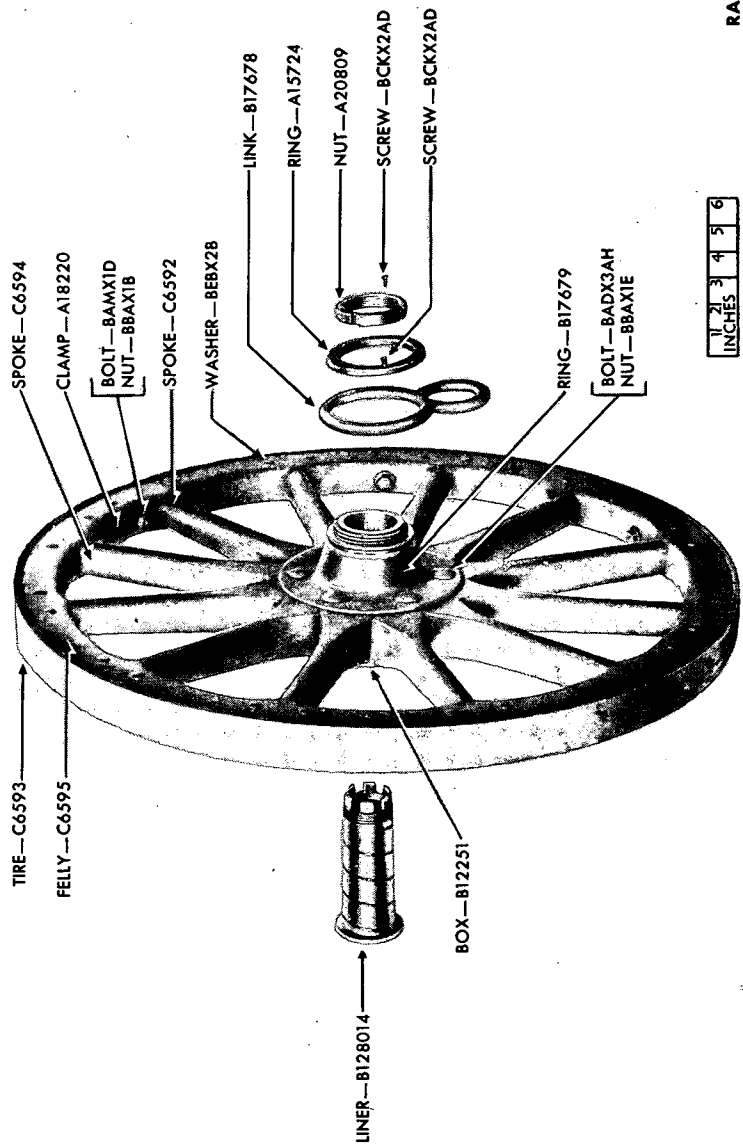

Figure 92—M1 Carriage Wheel Group
(1) M1 CARRIAGE WHEELS (fig. 92).
(d) Remove screw from wheel ring and unscrew wheel ring from hub ring. Slide drag link off hub ring (fig. 92).